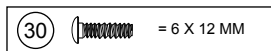

FIG. 2
- 5) Attach the two Apron Corners with Window (#32) to the two End and Side Aprons labeled "PLEASE ATTACH APRON CORNER (#32) AT THIS SIDE" using eight (#21) Screws on the inside of each apron corner (inside of the silver plastic piece). Next, attach the two Apron Corners (#31) to the other End and Side Aprons. See Fig.2.
- 6) Place one Storage Door (#33) inside the Top Storage Drawer (#34) and attach one Bottom Storage Drawer (#35) to the Top Storage Drawer (#34) using four (#21) Screws. See Fig. 2B. Then attach the Drawer assembly (#33, 34 and 35) to the underside of playfield and the Apron Corners with window (#32) using six (#21) Screws. See Fig.2 and 2A. Do the same for the other Drawer and Door.